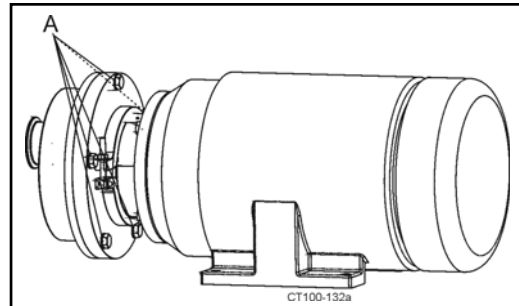

Figure 37 - Install Backplate Bolts
9. Install bolts and washers connecting front cover to backplate (Figure 37).